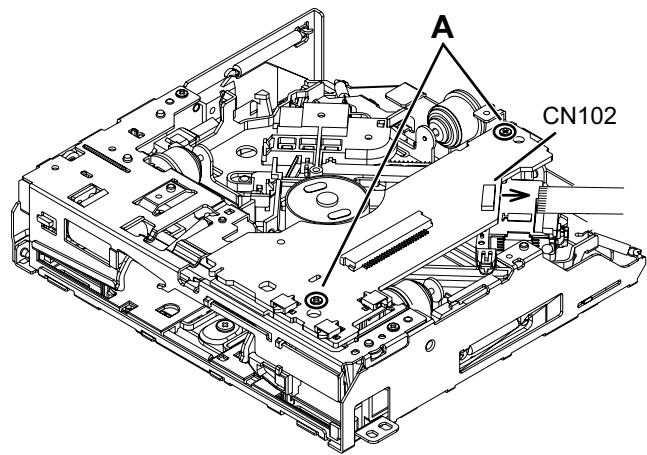

Fig.3
- (3) Disconnect the flexible wire from the pickup connected to the connector CN102 on the Mecha control board. (See Fig.3)
- (4) Remove the two screws **A** attaching the Mecha control board. (See Fig.3)